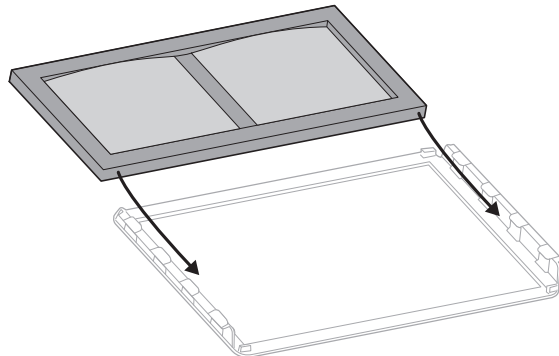

Fig. 27a
- Choose the appropriate lens and insert it into the lens holder (Fig. 27a).